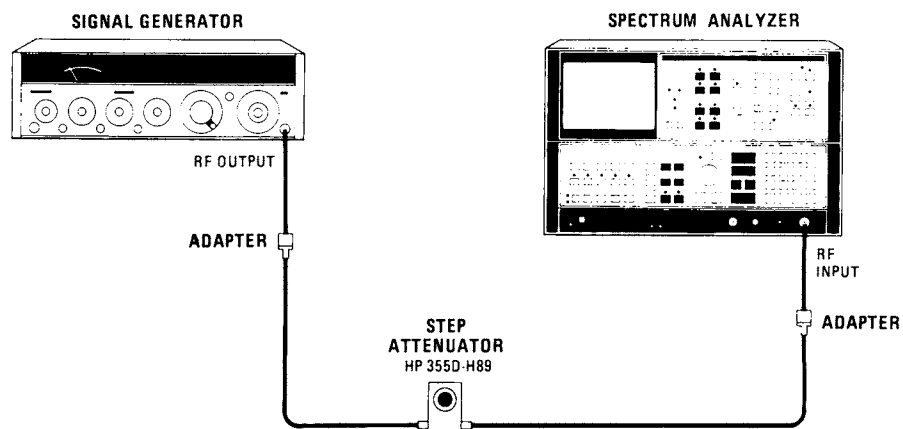

Figure 4-14. Scale Fidelity Test Setup
2. Connect equipment as shown in Figure 4-14 with step attenuator set at 0 dB.